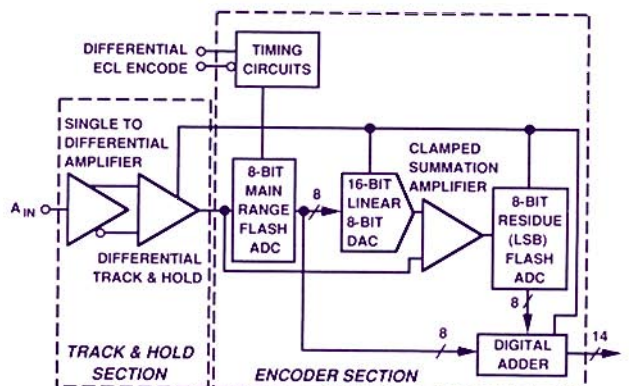

Figure 2. Block Diagram of the AD9014
**How it works:** A single-ended analog input signal is converted to a balanced differential signal that is sampled and held by a differential track-and-hold amplifier (Figure 2). The differential track-and-hold achieves first-order cancellation of even-order harmonics while suppressing common-mode noise. The second hybrid is a digitally corrected subranging a/d encoder that uses two 8-bit flash converters and a 16-bit-linear DAC for two bits of overlap correction. Decoupling capacitors have been designed into both hybrids, as well as on the mother board; this on-board decoupling simplifies the task of using the converter successfully. All required references are included on board.